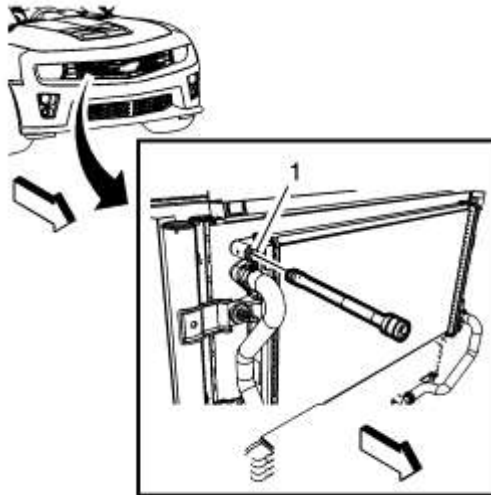

Figure 4: Vent plug location
- Using a long 3/8" extension through the front grille, loosen the vent plug on the PS of the heat exchanger of the intercooler system. See figure 4. **DO NOT REMOVE THIS PLUG!!!!**